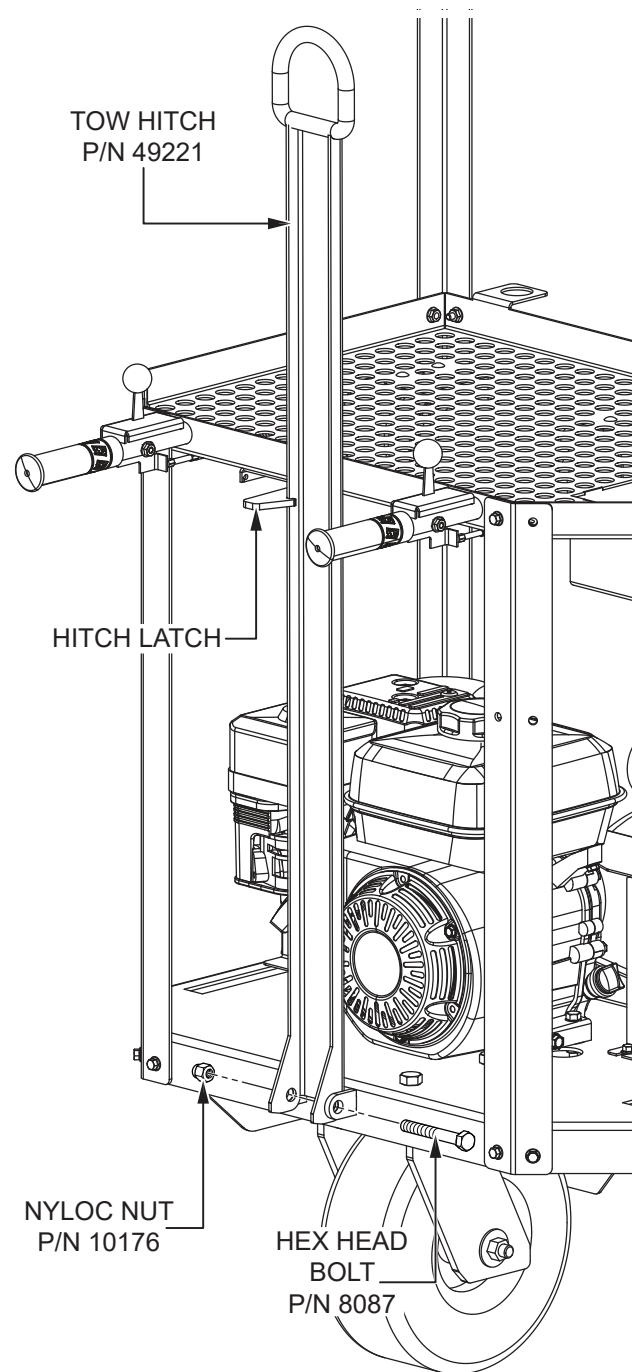

Figure 11. Tow Hitch Installation
8. Attach the tow hitch (P/N 49221) to the frame with the 1/2-13 x 4" hex head bolt (P/N 8087) and nyloc nut (P/N 10176). Secure the tow hitch with the hitch latch. See Figure 11.